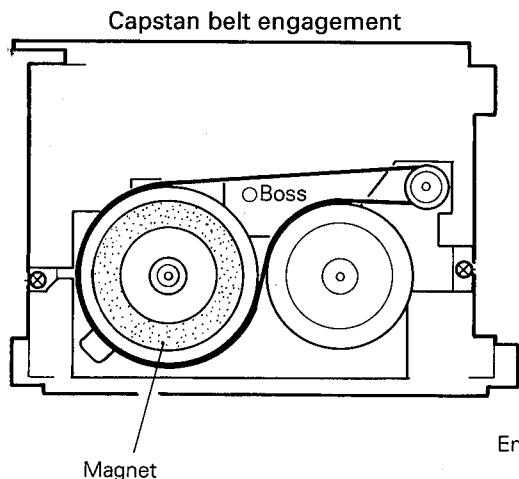

Fig. 2-14
- 2) Remove one screw ⑤ retaining the reel motor assembly.
- 3) Remove one screw ⑥ retaining the grounding wire to the DD motor bracket.
- 4) Remove two screws ⑦ retaining the DD motor.
■ For reengaging the capstan belt, refer to Fig. 2-14.